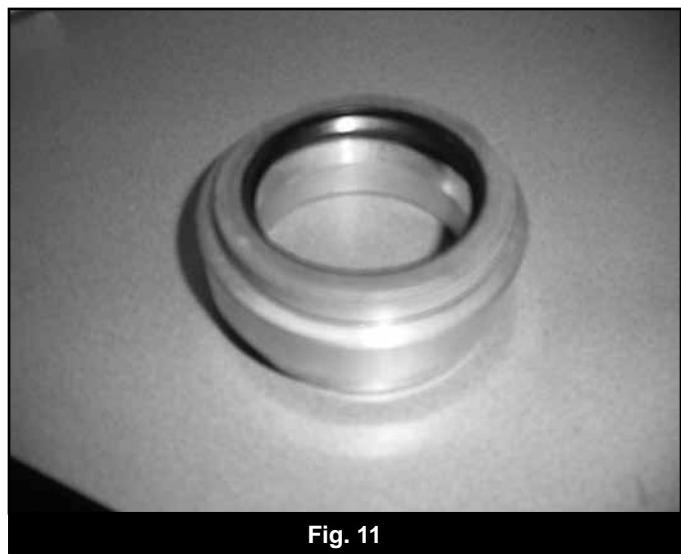

Fig. 11
20. Lightly grease the outside of the seal to aid in installation. Install the new transmission output seal into the adaptor. Ensure that it is seated flush with the extension. Lightly grease the inner lip of the seal. (Fig 11).